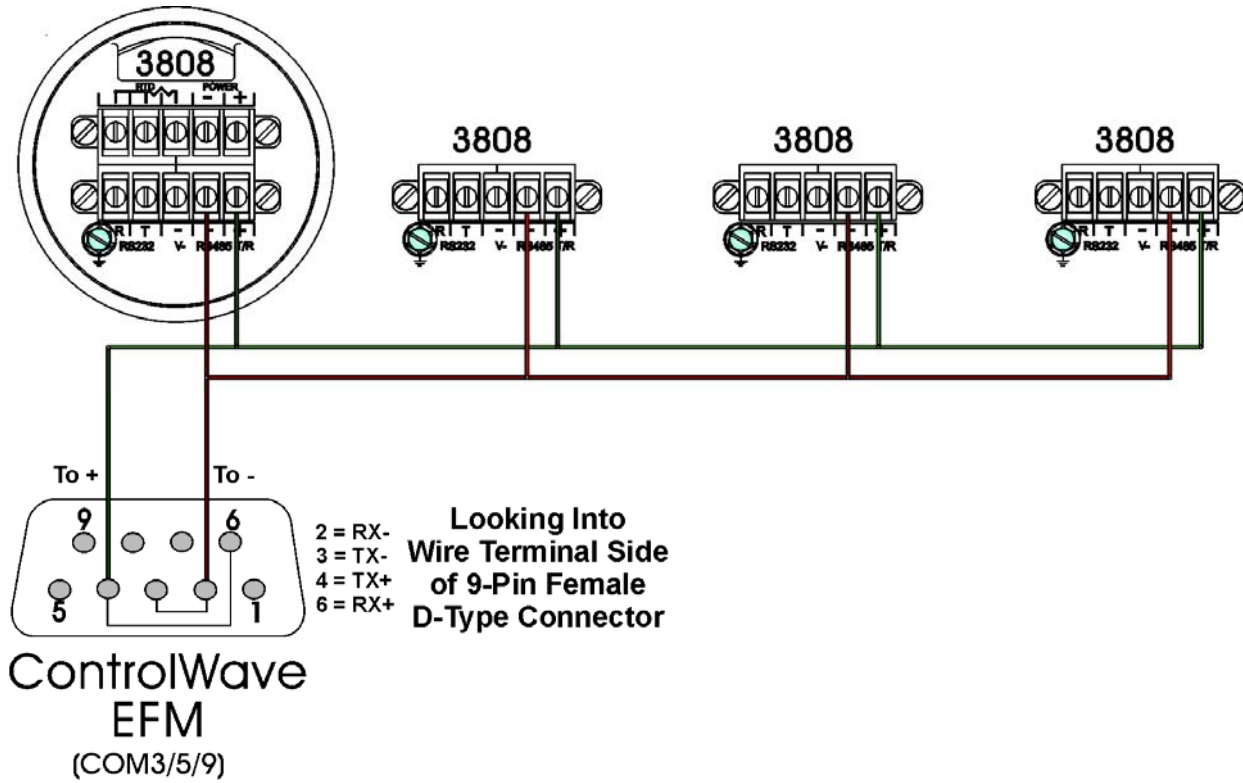

Figure 3-14. ControlWave EFM to 3808s - RS-485 Network Diagram
You can connect up to eight (8) Bristol 3808 transmitters to a ControlWave EFM using a half-duplex RS-485 network. See *Figure 3-14* for an illustration of this type of network.